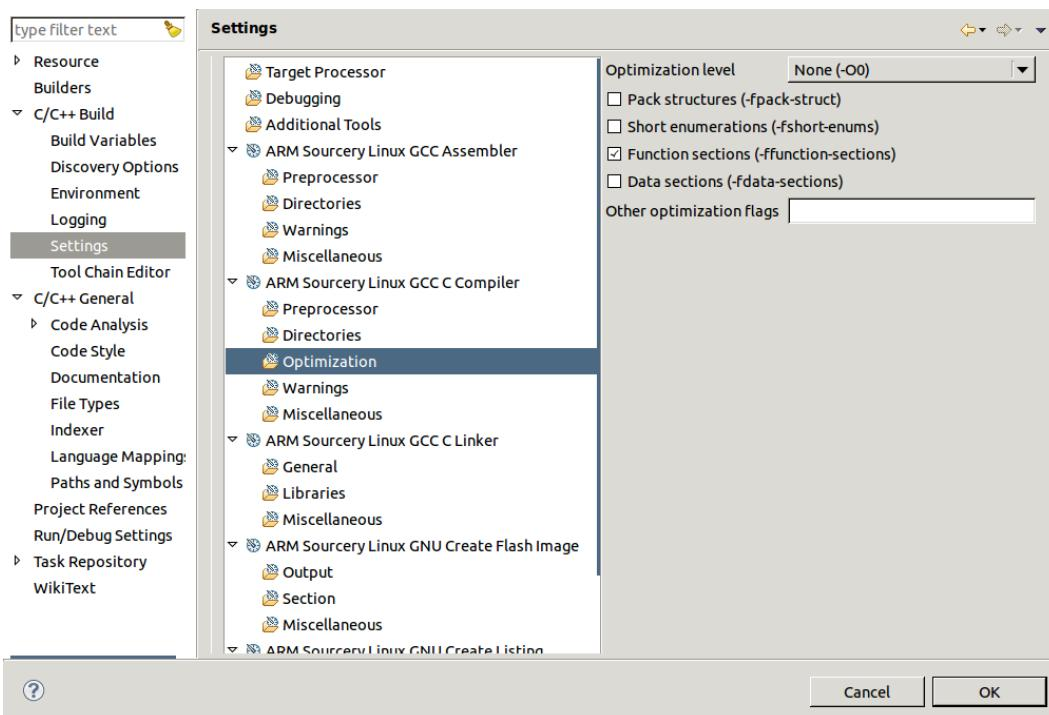

Figure 11.13 Optimization
- From the drop down menu next to Optimization Levels, select “None (-O0)” and make selections as shown in Figure 11.13.